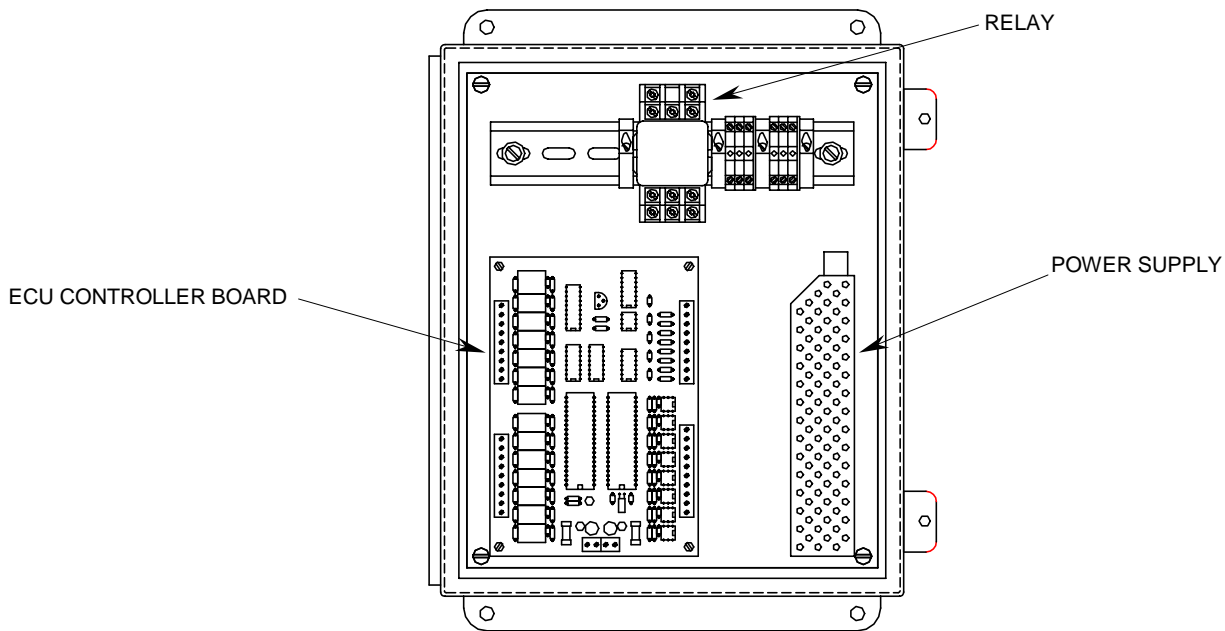

Figure 4. ECU Control Box Components.
**ECU Controller Board:** The ECU Control Box (Figure 4) is located in the Mechanical Room next to the air conditioners. Make sure the Air Conditioner and the ECU Control circuit breakers on the Power Distribution Panel are turned OFF and tagged or locked. Open the front panel of the ECU Control Box and label the wires to terminal boards P1 through P5 as shown in Figure 1. Remove the wires and the four mounting screws. Install the replacement PC board and the mounting hardware. Reconnect all wires to the terminal boards P1 through P5. Turn on the circuit breakers and check the air conditioners for proper operation as described earlier under TEST.
**CONTAINERIZED KITCHEN (CK)